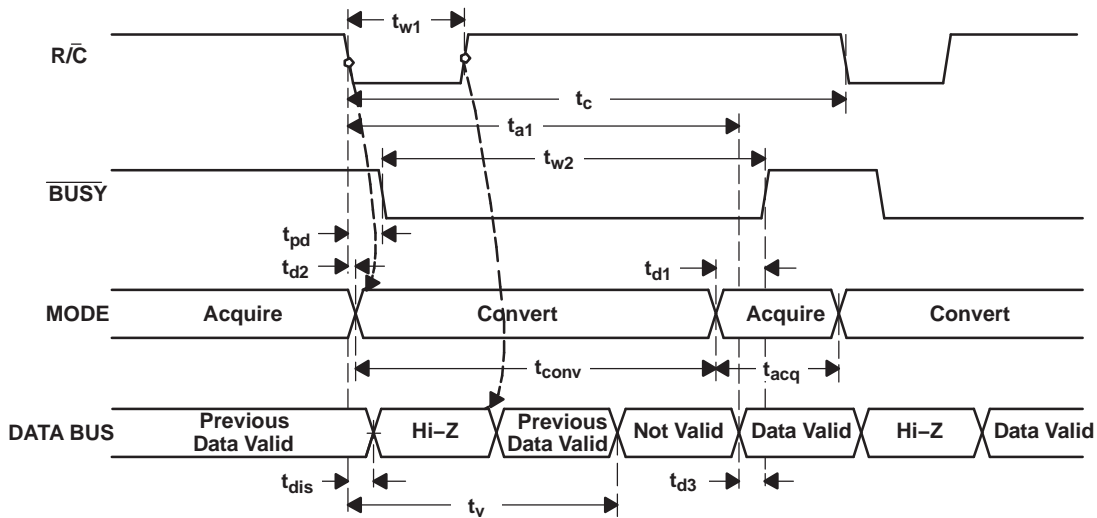
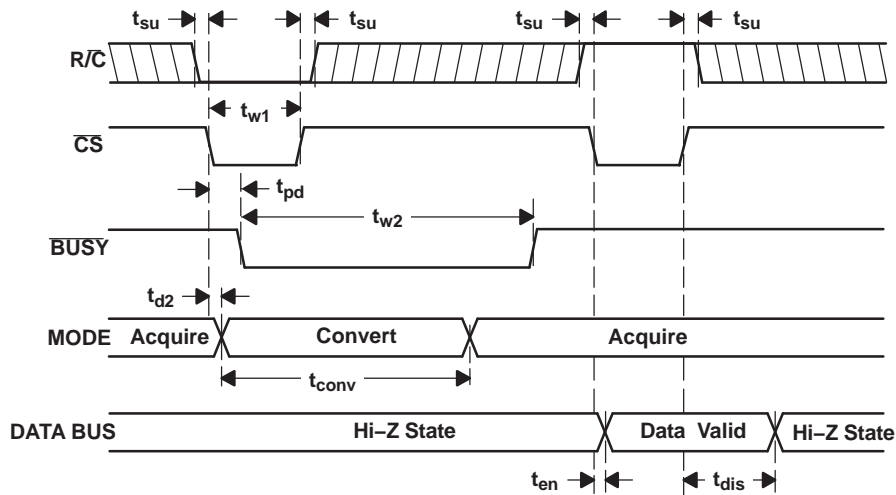
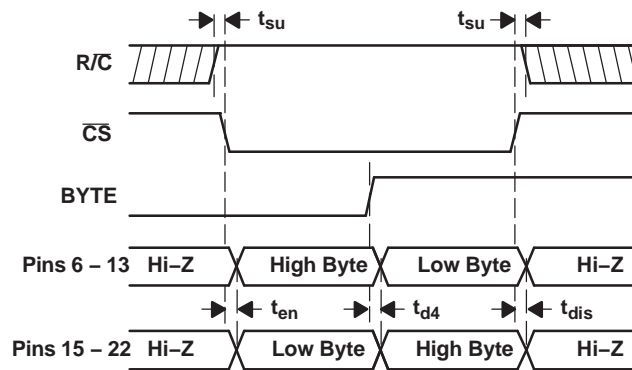

Figure 21. Conversion Timing with Outputs Enabled after Conversion (\overline{CS} Tied Low)
Figure 22. Using \overline{CS} to Control Conversion and Read Timing
Figure 23. Using \overline{CS} and BYTE to Control Data Bus
The ADS8515 begins tracking the input signal at the end of the conversion. Allowing 4 μ s between convert commands assures accurate acquisition of a new signal. Refer to Table 1 for a summary of \overline{CS} , $\overline{R/C}$, and \overline{BUSY} states and Figure 21, Figure 22, and Figure 23 for the timing diagrams.
(1) See Figure 21 and Figure 22 for constraints on data valid from conversion $n - 1$.
After conversion n is completed and the output registers have been updated, $\overline{\text{BUSY}}$ (pin 26) goes high. Valid data from conversion n are available on D15 to D0 (pins 6 to 13 and 15 to 22). $\overline{\text{BUSY}}$ going high can be used to latch the data. Refer to Table 3 and Figure 21, Figure 22, and Figure 23 for timing specifications.
After conversion n has been initiated, valid data from conversion -1 can be read and are valid up to t_2 after the start of conversion n . Do not attempt to read data from t_2 after the start of conversion n until $\overline{\text{BUSY}}$ (pin 26) goes high; this may result in reading invalid data. Refer to Table 3 and Figure 21, Figure 22, and Figure 23 for timing specifications.
The number of control lines can be reduced by tying $\overline{\text{CS}}$ low while using the falling edge of $\overline{\text{R/C}}$ to initiate conversions and the rising edge of $\overline{\text{R/C}}$ to activate the output mode of the converter. See Figure 21.